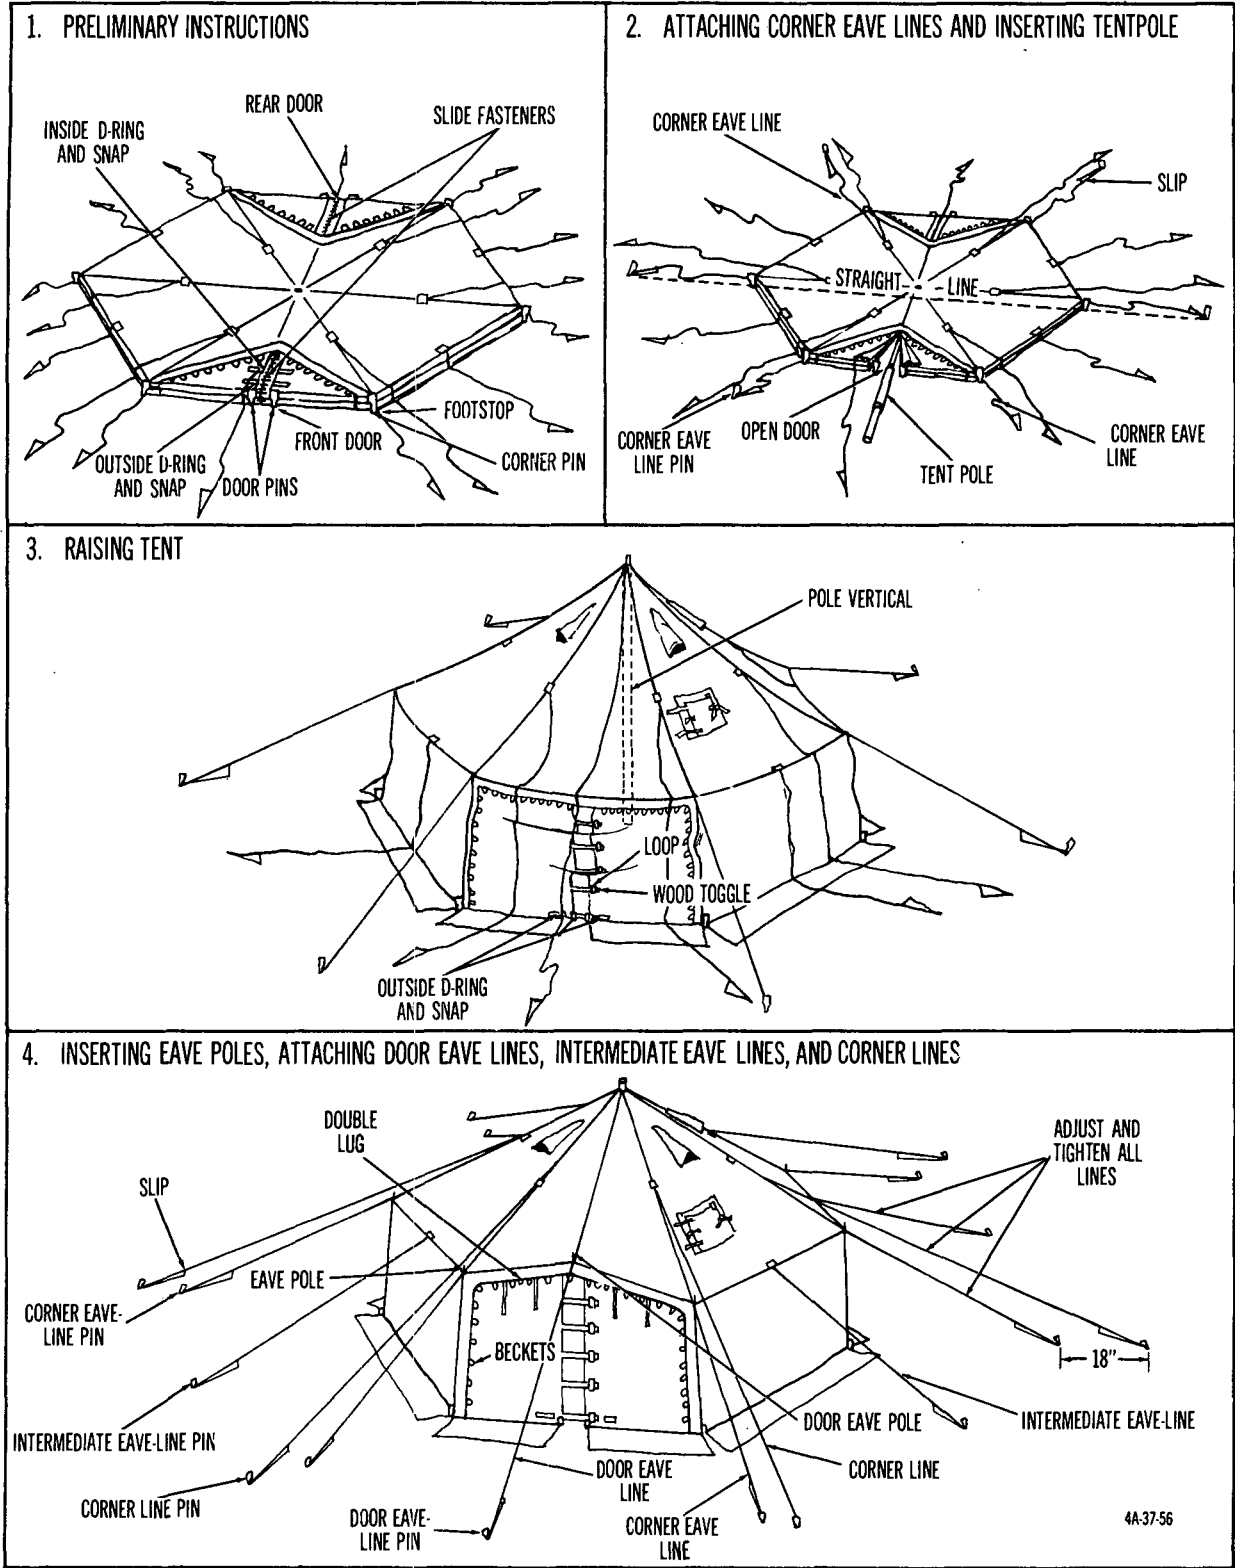

Figure 33. Steps in pitching tent, general purpose, small.
(1) *Preliminary instructions* (1, fig. 33).
(2) *Attaching corner eave lines and inserting tentpole* (2, fig. 33).
(3) *Raising tent* (3, fig. 33).
- (f) Extend six eave poles to 5-foot length, and insert spindles of eave poles through tent grommets at corners of tent (4, fig. 33).
- (i) Extend two eave poles to 7-foot length, and insert spindles of poles through tent grommets at center of tent doors (4, fig. 33).
- (4) *Fastening liner to inside of tent.*
- (5) *Joining two tents together.*
- (a) When two tents are to be joined together, erect the first tent as described above. Fasten lugs (4, fig. 33) at front or rear of tents together by inserting grommet lug of one tent between grommet lug and the becket lug of other tent, and chain-lace becket (fig. 4) on lug of one tent through grommets on each lug of both tents. Begin chain-lacing at bottom (near the ground) of lugs and continue until bottom (near the ground) at other end of the same lugs is reached, securing last becket with a knot. Then erect the second tent in the same manner as the first tent.
- (b) An alternate method of joining two tents together is to spread both tents on the ground with the front or rear of one tent next to the front or rear of the other tent, and fasten the lugs of the two tents together as described in (a) above. Then erect the two tents as described in (1) through (4) above.
- (6) *Attaching vestibule.*